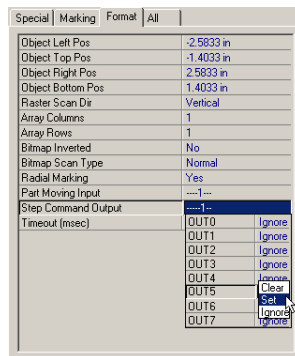

Figure 3 Configure the Step Command Output property
- 5 Click the Step Command Output property and click the arrow button. In the drop-down list, click *OUT5* and choose *Set* (Figure 3). When *Set* (active), this Flyer output signals parts handling equipment to rotate the part one step.